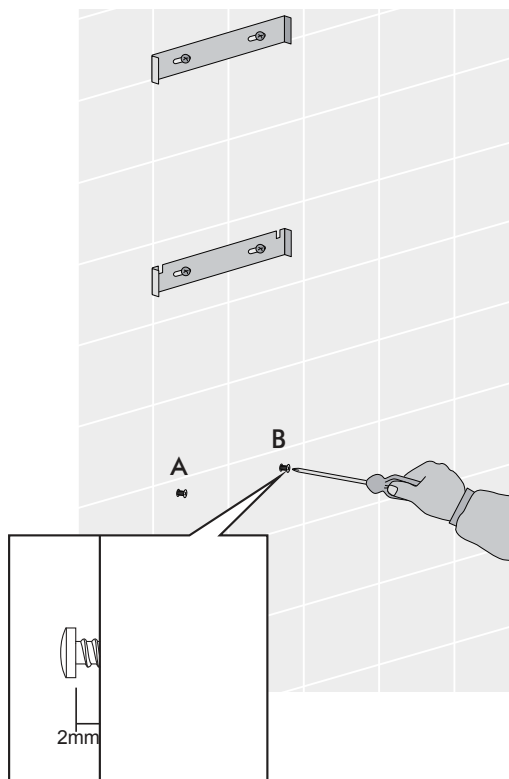

Fig. 8
3. Install flue cover wall mounting brackets with suitable fixings. Install suitable screws for rangehood mounting points (to support a total weight of 30kg) to the wall as marked (Fig. 8)